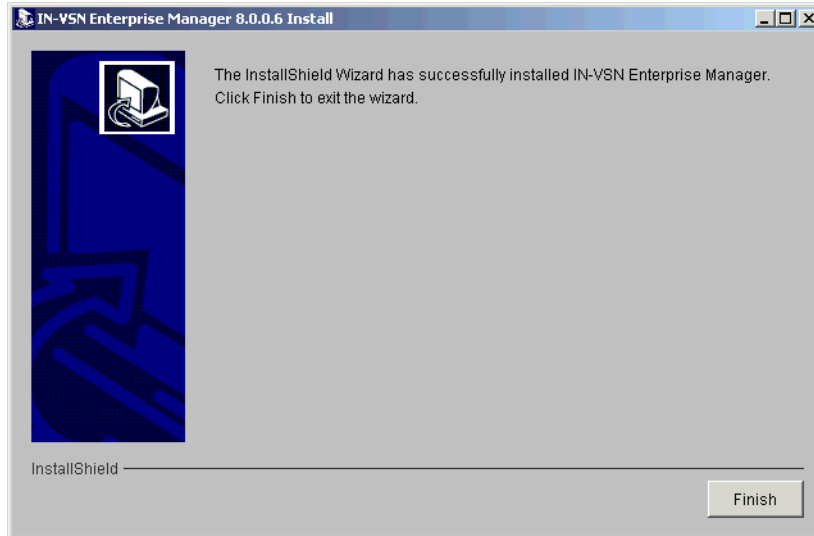

Figure 3-11 IN-VSN installation complete
8. The installation proceeds with no need for additional input. After installing these IN-VSN packages you are given an installation summary which tells you that all components were installed successfully, as shown in Figure 3-11.